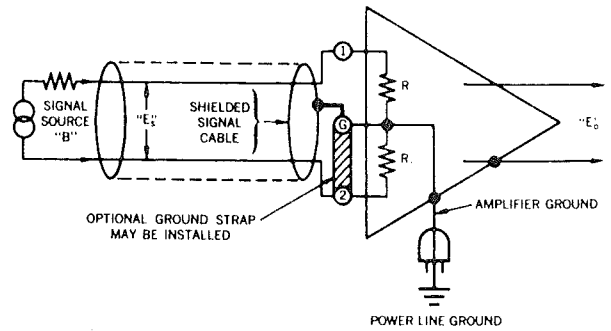
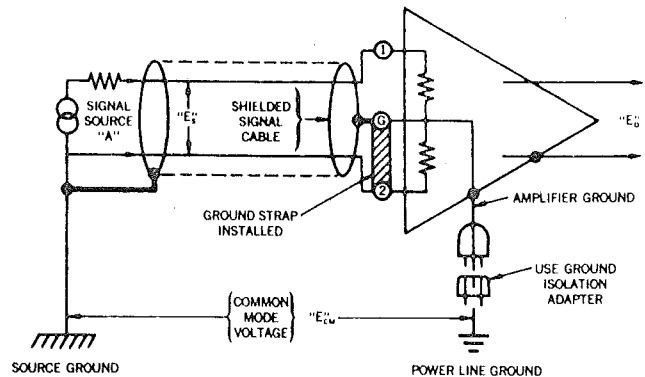

Figure 8. Balanced to Ground Amplifier. Operating grounded with single ended-floating source.
Figure 12. Balanced to Ground Amplifier. Operating floating with single ended-grounded source.
When a Balanced to Ground Amplifier is used with SINGLE ENDED-FLOATING or BALANCED-FLOATING signal sources, the two active amplifier input terminals are connected to both sides of the signal source. The connections can be reversed if a change in polarity is desired. The signal cable shield is connected to the grounded input terminal on the amplifier as shown in Figures 8 and 9. The optional ground strap shown in Figure 8 may be installed or omitted depending on which condition provides minimum electrical noise.
The "Balanced to Ground" amplifier can NOT be used with a SINGLE ENDED-GROUNDED signal source. The best solution would be to remove the ground at the signal source and operate the amplifier "Single Ended-Grounded" as shown in Figure 8. If this is impractical, then the amplifier would have to be operated "Single Ended-Floating". This can be done by installing the ground strap from input terminal (2) to the ground terminal and then lifting the ground in the a-c power cord as shown in Figure 12. When the signal source ground is used, all channels in a multichannel system must be connected to a common source ground.